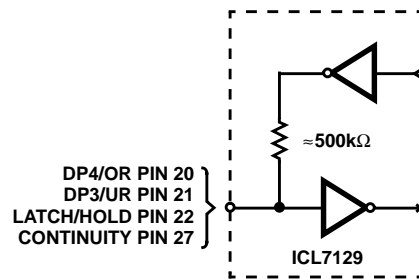

FIGURE 6. “WEAK OUTPUT”
Four pins of the ICL7129 can be used as either inputs or outputs. The specific pin numbers and functions are described in the Pin Description table. If the output function of the pin is not desired in an application it can easily be overridden by connecting the pin to V+ (HI) or DGND (LO). This connection will not damage the device because the output impedance of these pins is quite high. A simplified schematic of these input/output pins is shown in Figure 6. Since there is approximately 500kΩ in series with the output driver, the pin (when used as an output) can only drive very light loads such as 4000 series, 74CXX type CMOS logic, or other high input impedance devices. The output drive capability of these four pins is limited to 3μA, nominally, and the input switching threshold is typically DGND + 2V.